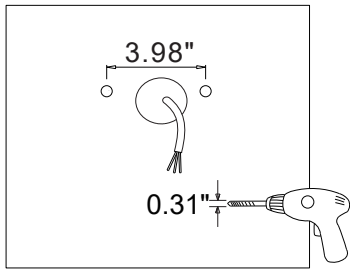

Figure 4
- Step 1: Drill holes into the wall as shown. (Figure 4)